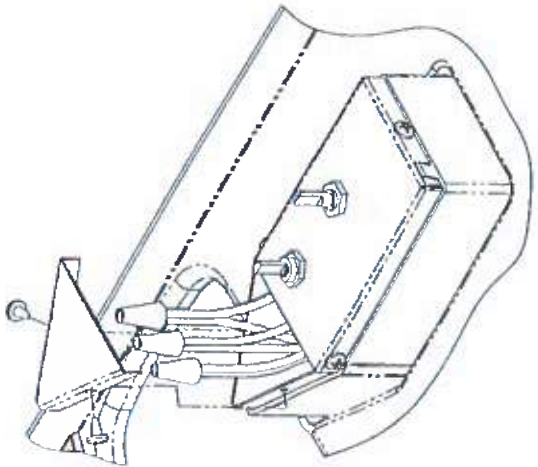

FIGURE 8
B. Fold and break off the 3 tabs around the inner opening of the duct collar then fasten the duct collar to the heat pump basepan with 3 provided screws (See Figure 8).
D. Connect the supply power black conductor to the black pigtail wire, the white conductor to the white pigtail wire and the supply ground conductor to the green pigtail wire found in the wiring box using the 3 provided wire nuts. Using a U.L. approved electrical tape, secure the wire nuts to wires in a workmanlike manner (See Figure 8).
E. Press supply conductors and wire nuts into wiring box and making sure no wires are pinched, secure the wire box cover with 2 provided screws (See Figure 8).